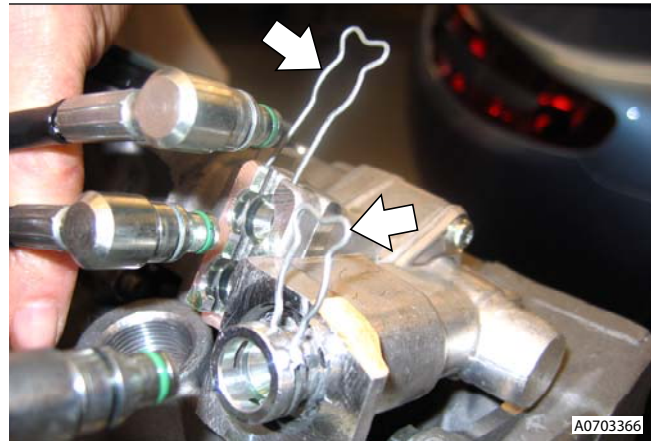

Figure 1
4. Remove and discard clips (x2) securing hoses into shifter assembly and disconnect hoses (see Figure 1).